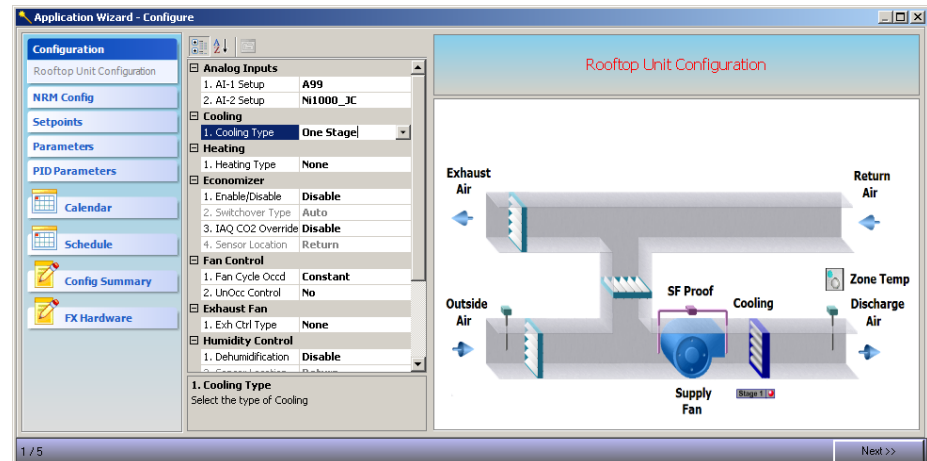

Figure 36: Configuration Plug-in
The Application Wizard generates Application and documentation files. The type of files generated depends on the selections made in the Application Wizard Preferences dialog box (Figure 29) and Configuration Options plug-ins (Figure 36). See *Creating a Standard Application Using the Application Wizard*.
1. Click Configuration. The Configuration categories and values appear (Figure 36).